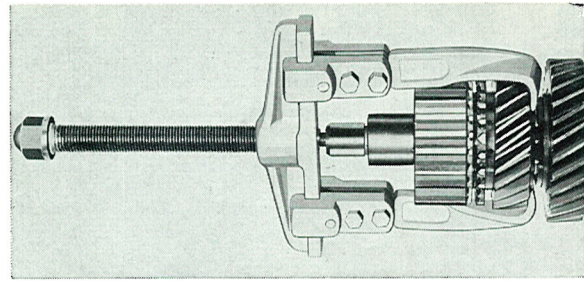

Fig. 4-32. Removing the front synchronizer
3. Remove the circlip on the front end of the shaft. Pull off the synchronizing hub and 3rd speed gear wheel with a puller, see Fig. 4-32. Remove the thrust washer.